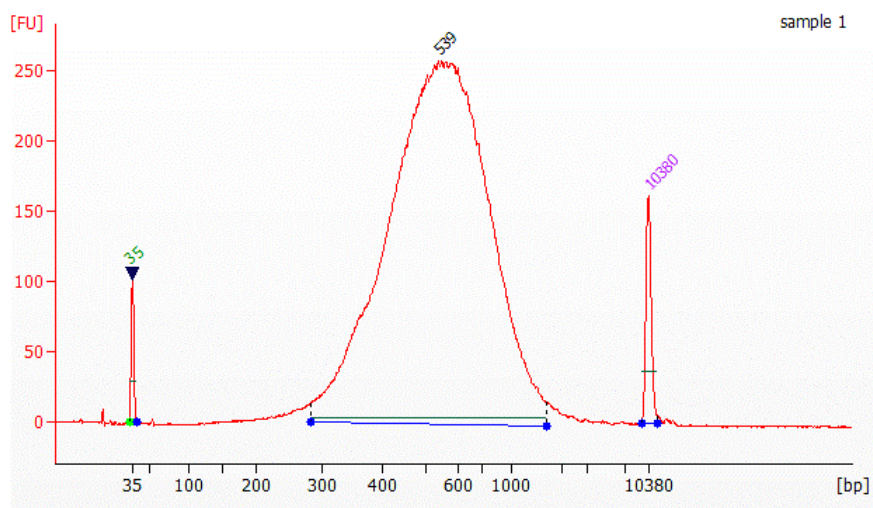

Figure 2 Agilent 2100 Bioanalyzer results of 1000 ng gDNA#dissolved in pH8.0 1X TE buffer#double size selection fragmentation product#30 °C,11 min#
**Tips** For the demo test, it is recommended to take 1 μL of eluted product for Agilent 2100 High Sensitivity test (Figure 2), to ensure that the peak size of the selected fragments is approximately 450 bp to 600 bp. It should be noted that the peak size of the sequenced library is normally smaller than the peak size shown in the Agilent 2100 Bioanalyzer.